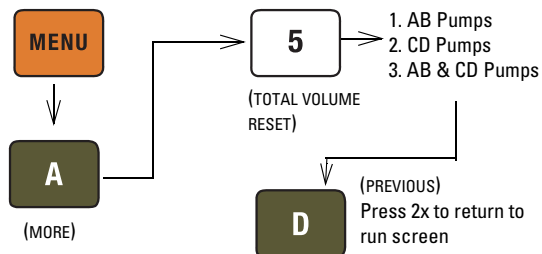

Figure 5-5 Keystrokes to reset volume totalizer
- Volume totalizer - The total volume delivered is displayed in liters at the top right corner of the screen. Refer to Figure 5-5 to reset the volume totalizer to zero.
3. Reset total volume (refer to Figure 5-5).
5. Reset total volume (refer to Figure 5-5).